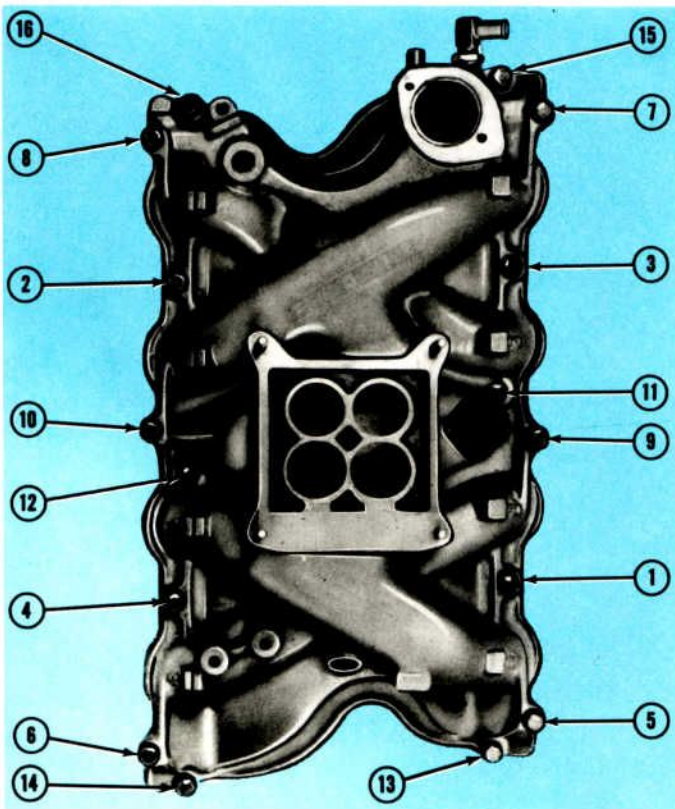

FIGURE A-20. TYPICAL INTAKE MANIFOLD TORQUE SEQUENCE
44. Be sure the holes in the manifold gaskets and manifold are in alignment. Install the intake manifold retaining bolts and stud nuts, and torque them to specification in the proper sequence. (See Figure A-20.)